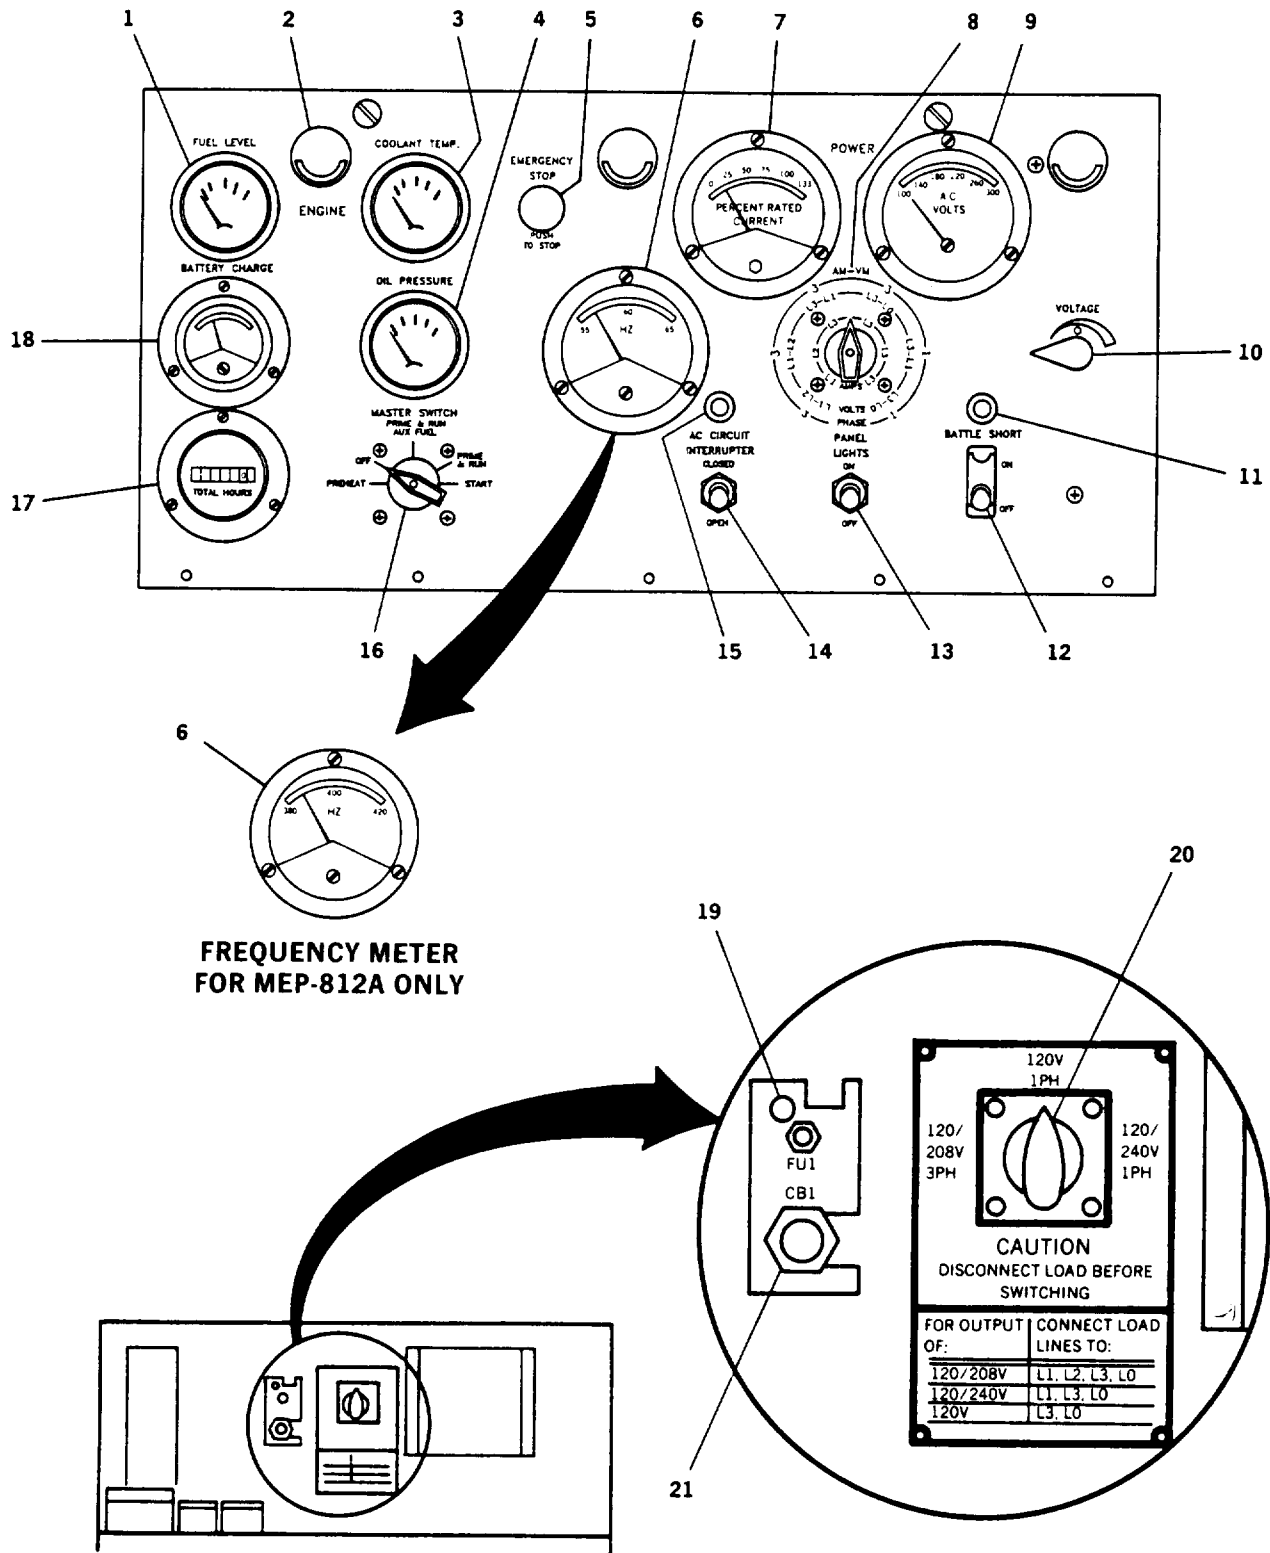

FIGURE 2-1. Operator's Controls and Indicators
The control panel assembly contains most of the operating controls and indicators for the generator set. FIGURE 2-1 shows the control panel assembly layout and TABLE 2-1 describes each control and indicator.
**For general location of the items to be inspected in TABLE 2-4, refer to FIGURE 1-2 and FIGURE 2-1.**